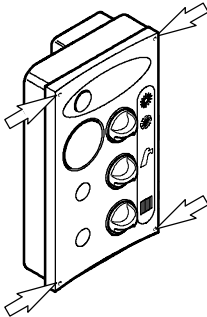

fig. 5.1
- 8 Loosen the screws indicated in fig. 5.1 and remove the cover of the control panel.